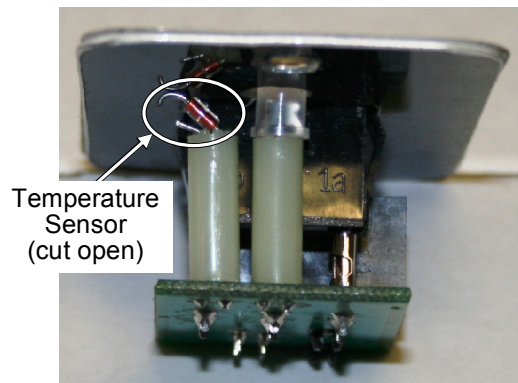

Figure 3, Sensor Cut Open
2. Use a pair of small wire cutters and clip open one side the temperature sensor (see Figure 3). Ensure the cut ends are not able to touch.